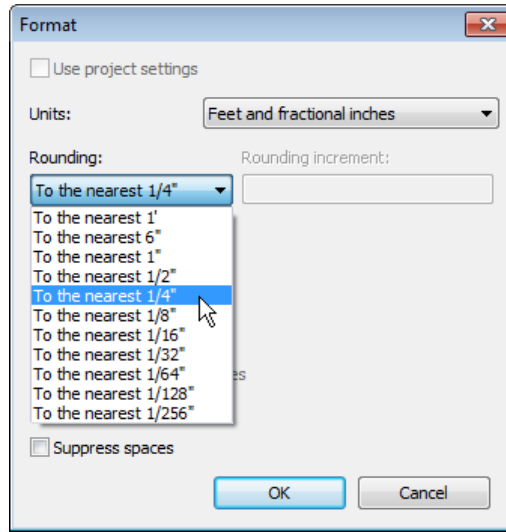

Figure 2-31 The **Format** dialog box
3. Click on the **Rounding** drop-down list and select the **To the nearest 1/4”** option, as shown in Figure 2-31.